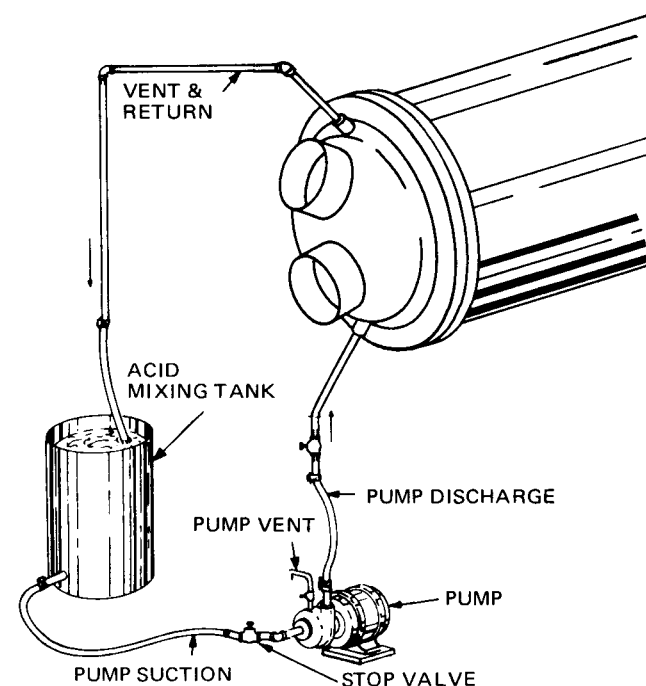

FIG. 23 — ACID CLEANING OF CONDENSER TUBES
### Acid Cleaning of Tubes (Refer to Figs. 23 and 24.)
Figs. 23 and 24 show the material and connections required for acid cleaning of condenser and cooler tubes.
3. Heat this solution by any convenient method; such as, a steam pipe or nozzle opened into the acid mixing tank (Fig. 23 or 24) to 160°F to 180°F and circulate this solution for one hour.